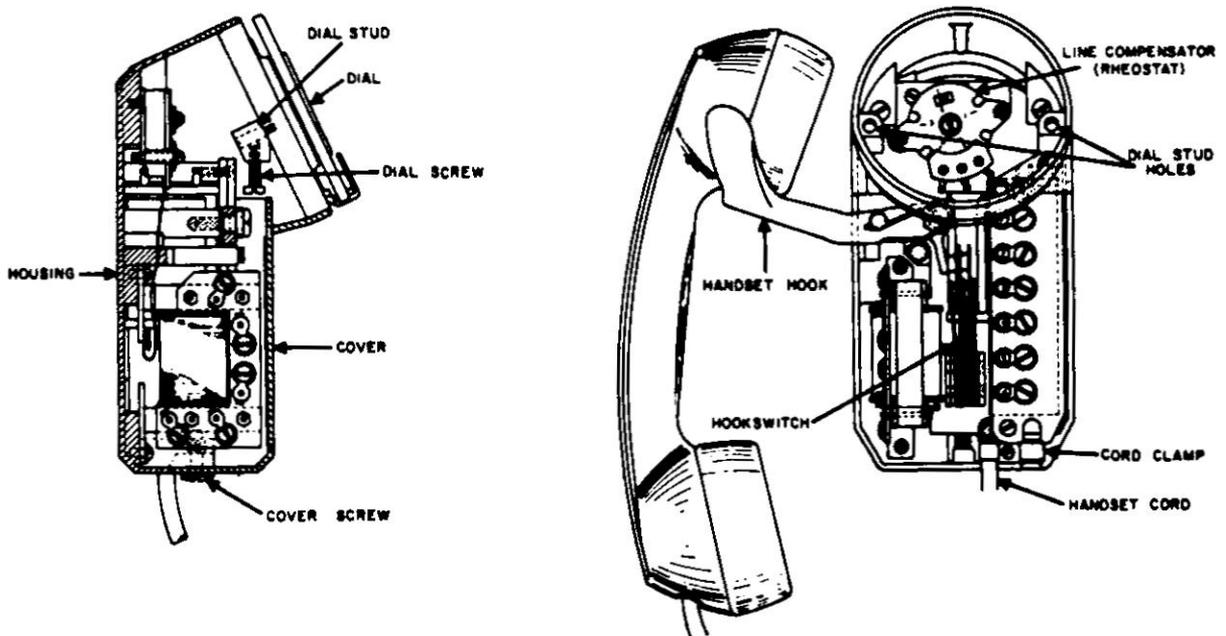

Figure 2. Type 83 Telephone (Interior Views).
- (1) Loosen the cover screw (Figure 2) and remove the cover.
- (2) Loosen the two dial screws and lift the dial assembly from the housing. Remove the dial wires from the dial terminals. Do not remove the dial wires from the terminal strip terminals.
- (3) Remove the two dial studs (Figure 2) from the dial assembly and insert these studs into the two tapped holes in the dial blank.
- (4) Place the YEL and BL dial leads under the screw in the dial blank and tighten the screw. Tape the RED and WH dial leads separately to insulate them from the circuit. If the dial has a BR lead, tape this lead separately.
(5) Place the dial studs which have been installed on the dial blank, into the dial stud holes of the housing and lower the dial blank into the housing. Fasten the dial blank with the two dial screws.
(6) Replace the telephone cover.
- (2) Loosen the two dial screws and lift the dial blank or dial assembly from the housing.
- (3) Remove the dial wires from the dial
stud holes in the housing and tighten the dial screws (Figure 2).